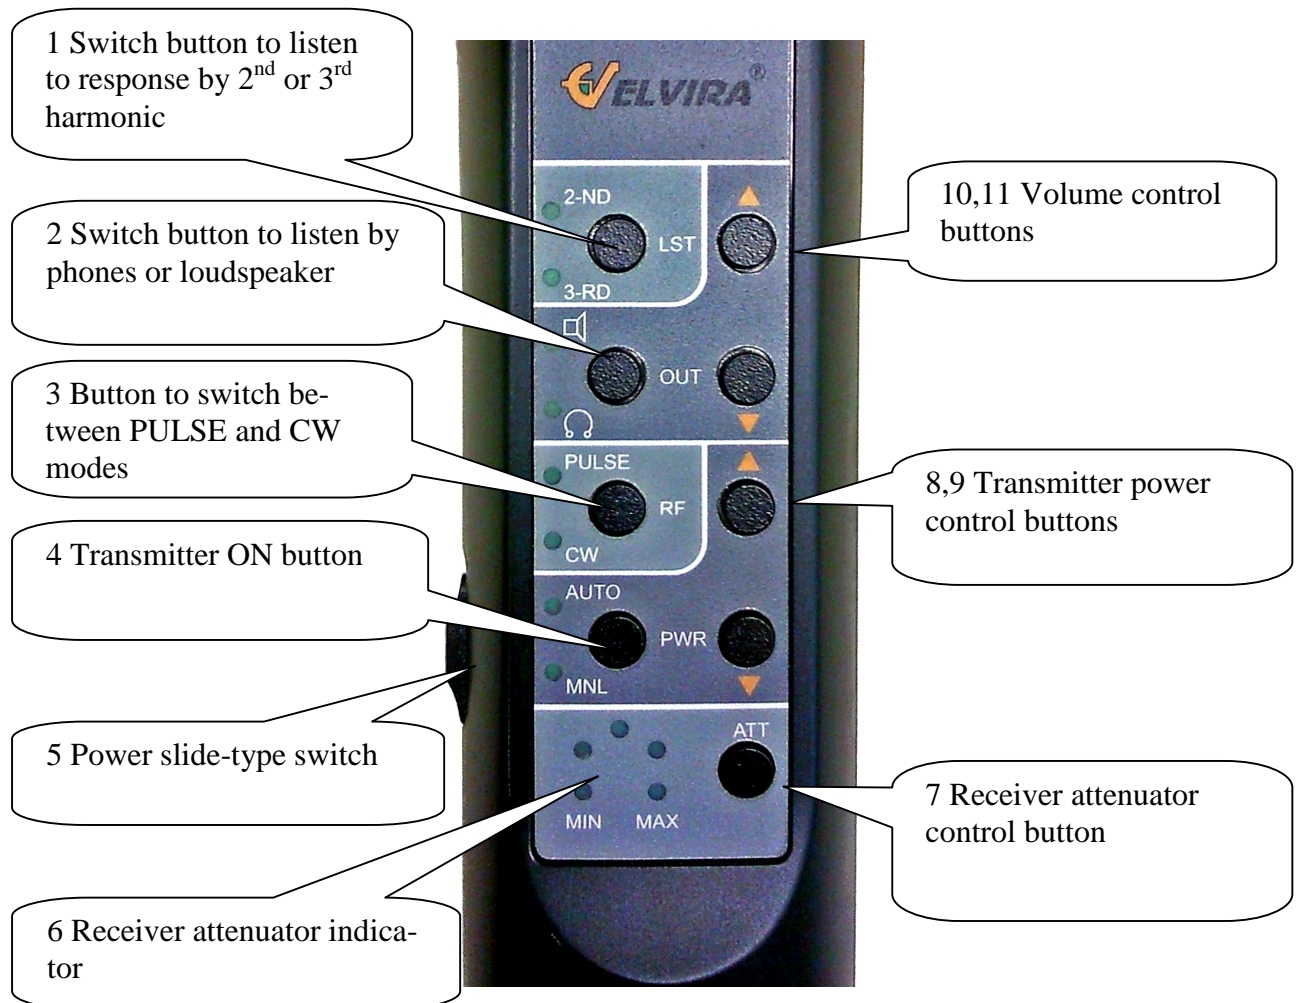

Fig. 5 Control Panel
4.3. The control panel is used to control operation of NLJD. It consists of a housing used as an arm into which a battery is integrated (changeable). A control board, buttons for operation modes control and display LEDs are placed in the housing. Control buttons are divided into two groups by their function: «AUDIO» placed in the upper half of the panel and «POWER RF» in the lower half. The control panel is shown in Fig. 5.
6.2. Turn NLJD on by the type-slide switch placed on the arm. The 2nd and 3rd indicators on the control panel will light up, indicating that NLJD has been powered on. One yellow LED should be lighting on the antenna unit (a circle scale of the probing signal power indicator). Its initial position corresponds to the maximum power of the probing signal in the automatic mode. Here the probing signal transmitter is off (it is turned on after pressing PWR button only). The 2nd and 3rd harmonics indicators should not light (flashing of the first LEDs of the 2nd and 3rd scales is permitted). Maximum power level can be changed using the power control buttons of the transmitter (Fig. 5).